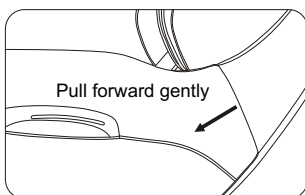

Figure 11
- Gently pull forward the back-end of armrest to pull out the decoration cover, then lift up the back-end of armrest to pull out the buckle. (figure 11)